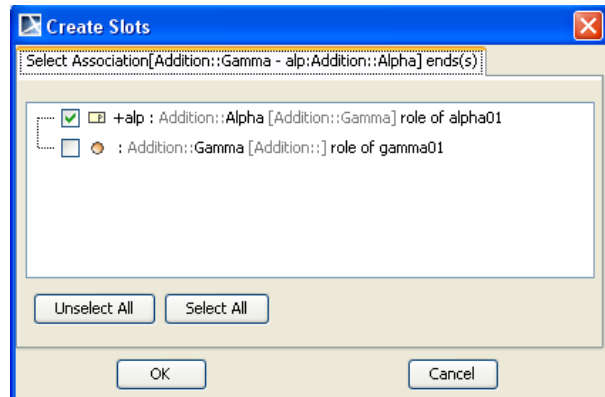

Figure 2.20 Create Slots window
- ii. On the Create Slots window, check **alp:Alpha** and click OK (Figure 2.20).